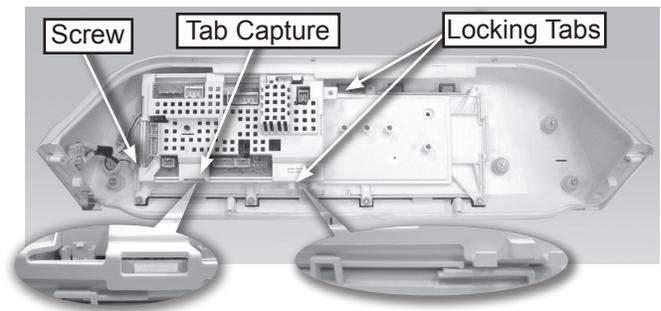

Figure 3
6. Remove one (1) screw and release two (2) locking tabs on the User Interface to replace control, see figure 3.